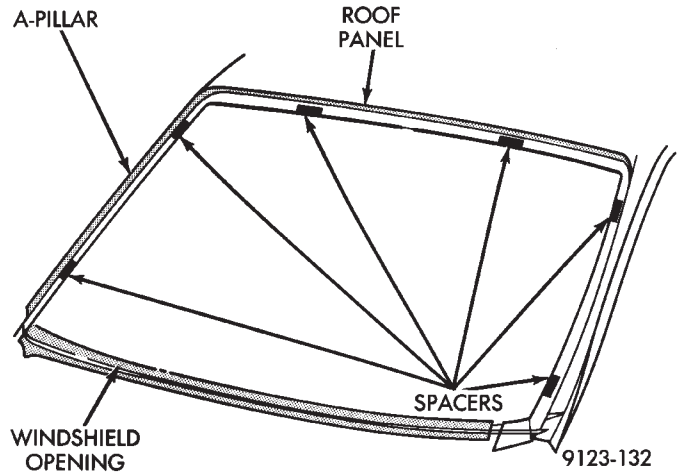

Fig. 4 Position Urethane Compression Spacers—Typical
- (10) Clean inside of windshield with ammonia based glass cleaner and lint-free cloth.
- (11) Apply molding to perimeter of windshield.
- (12) Apply Glass Prep adhesive promoter 25 mm (1 in.) wide around perimeter of windshield and wipe with clean/dry lint-free cloth until no streaks are visible.
- (13) Apply Glass Primer 25 mm (1 in.) wide around perimeter of windshield. Allow at least three minutes drying time.
- (14) Using a razor knife, remove as much original urethane as possible. Do not damage paint on windshield fence.
- (15) Apply pinch weld primer 15 mm (.75 in.) wide around the windshield fence. Allow at least three minutes drying time.
- (16) If a low viscosity urethane adhesive is used, install compression spacers on the fence around the windshield opening at original locations (Fig. 4).
- (17) Apply a 10 mm (0.4 in.) bead of urethane on centerline of windshield fence.
- (18) With the aid of a helper, position the windshield over the windshield opening. Align the reference marks at the bottom of the windshield to the support spacers.
- (19) Slowly lower windshield glass to windshield opening fence. Guide the molding into proper position